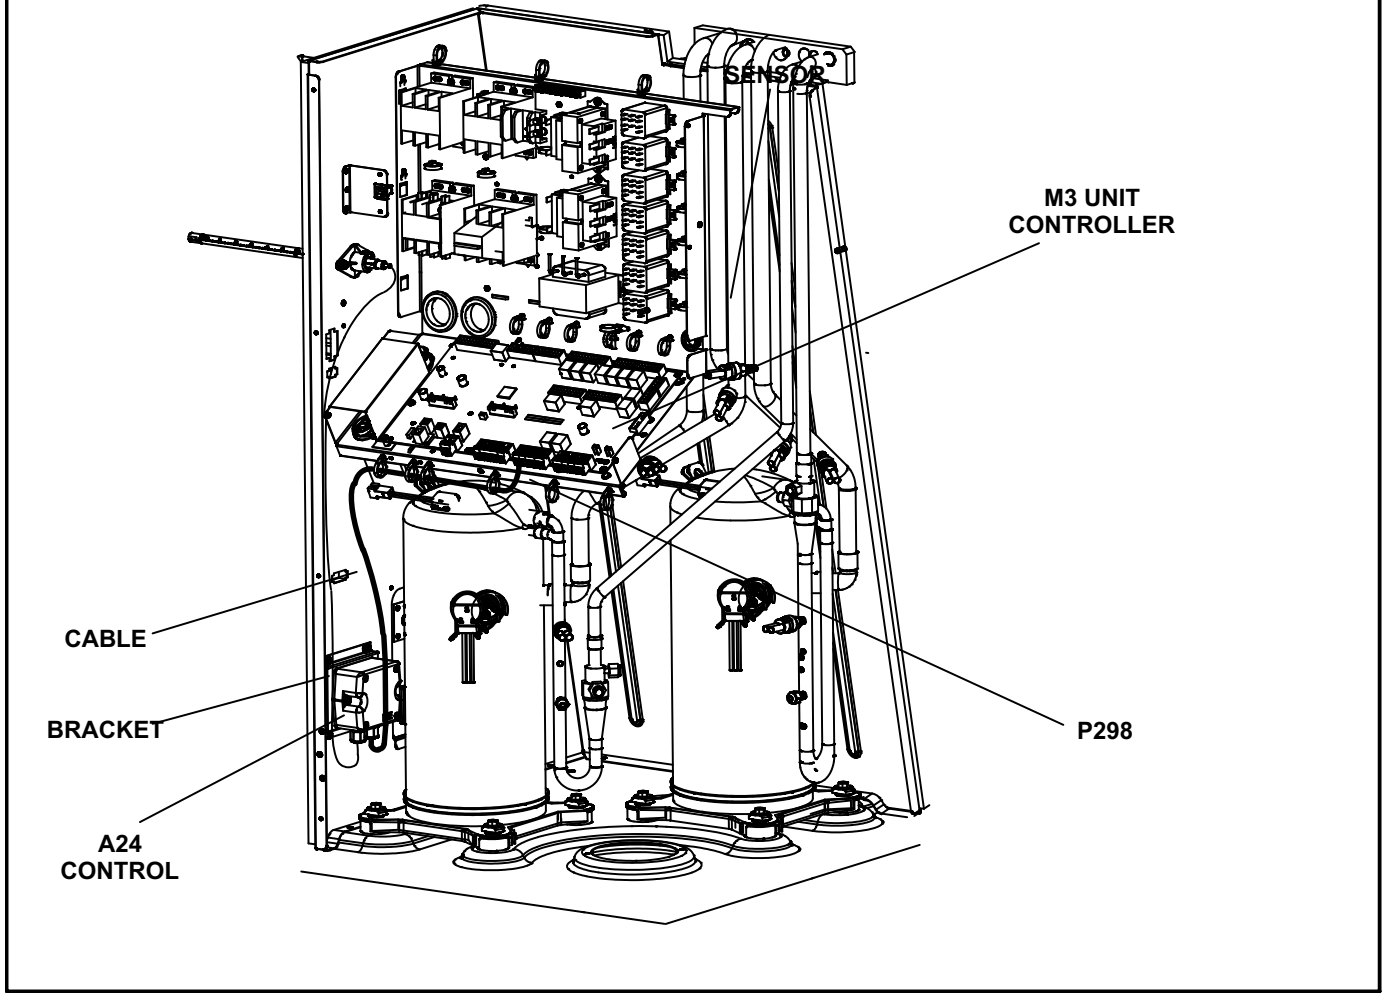
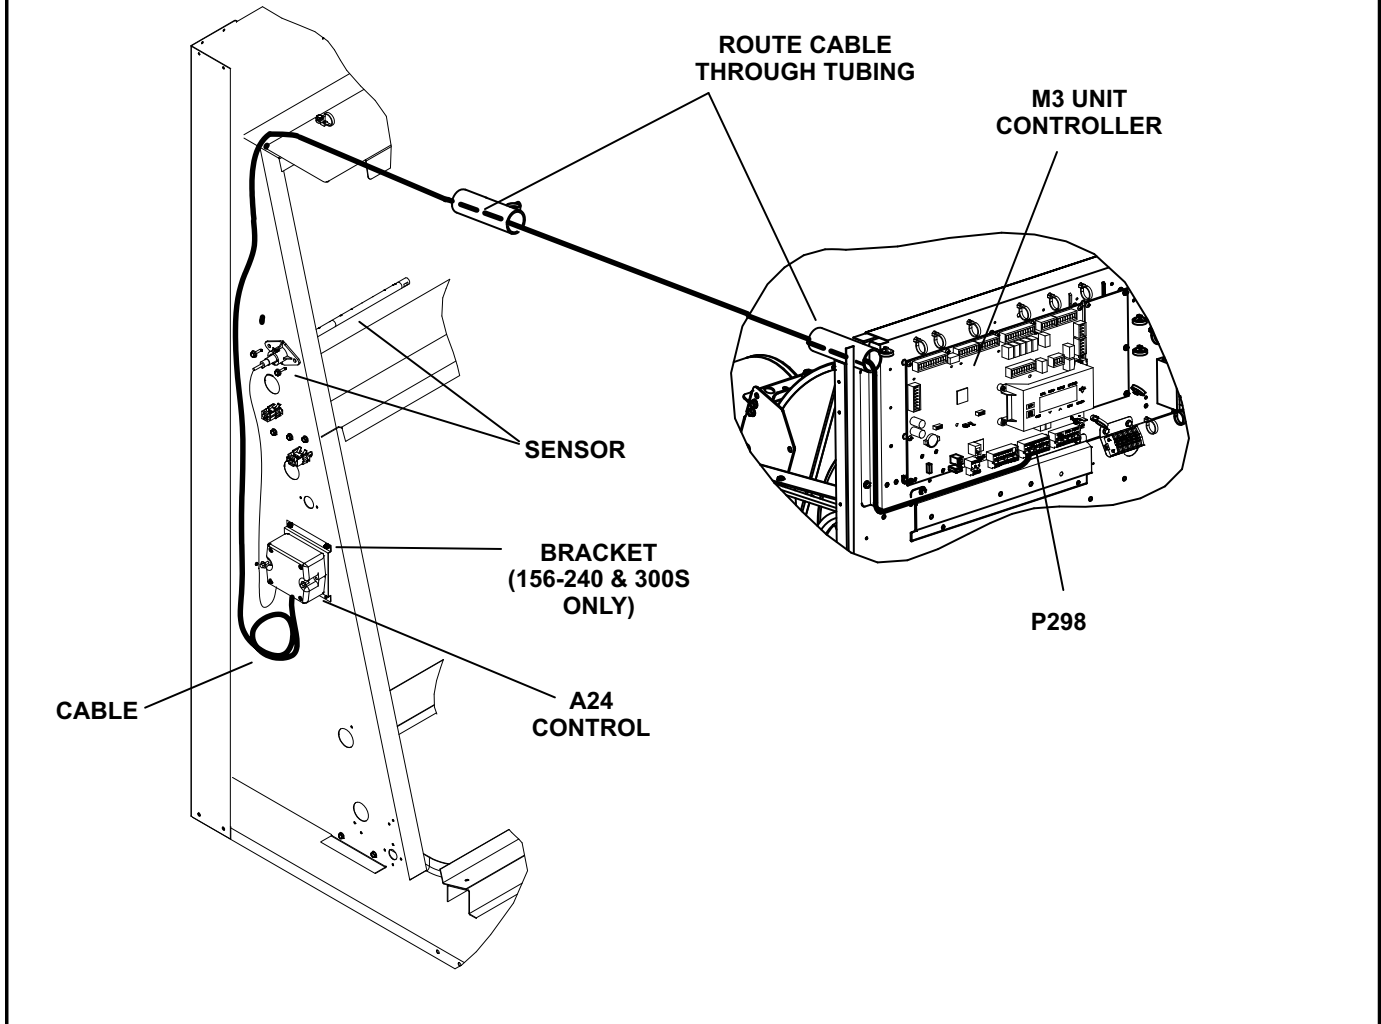

FIGURE 7
FIGURE 8
Secure the A24 control onto the bracket and secure with two 1" screws provided in kit. Install the bracket assembly into the unit and secure with 5/8" self drilling screws. See figure 7 for 092-152 units and figure 8 for 156-240 & 300S units.
Install the A24 control into the unit and secure with 1" sheet metal screws. See figure 8. The bracket and 5/8" self drilling screws are not used.
- 3- Route the cable to the M3 Unit Controller. See figure 7 for 092-152 units and figure 8 for 156-360 units.